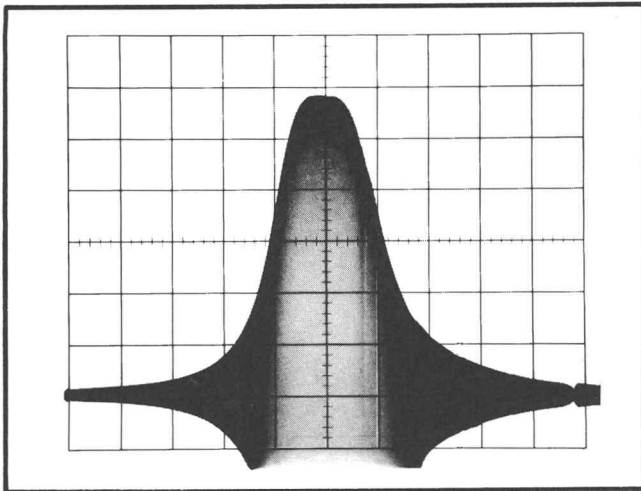

Fig. 6-8. Typical test oscilloscope display for adjusting C504 and C508 (Step 4e).
e. Adjust C504 and C508 for a display on the test oscilloscope similar to Fig. 6-8. Set C504 for minimum display width